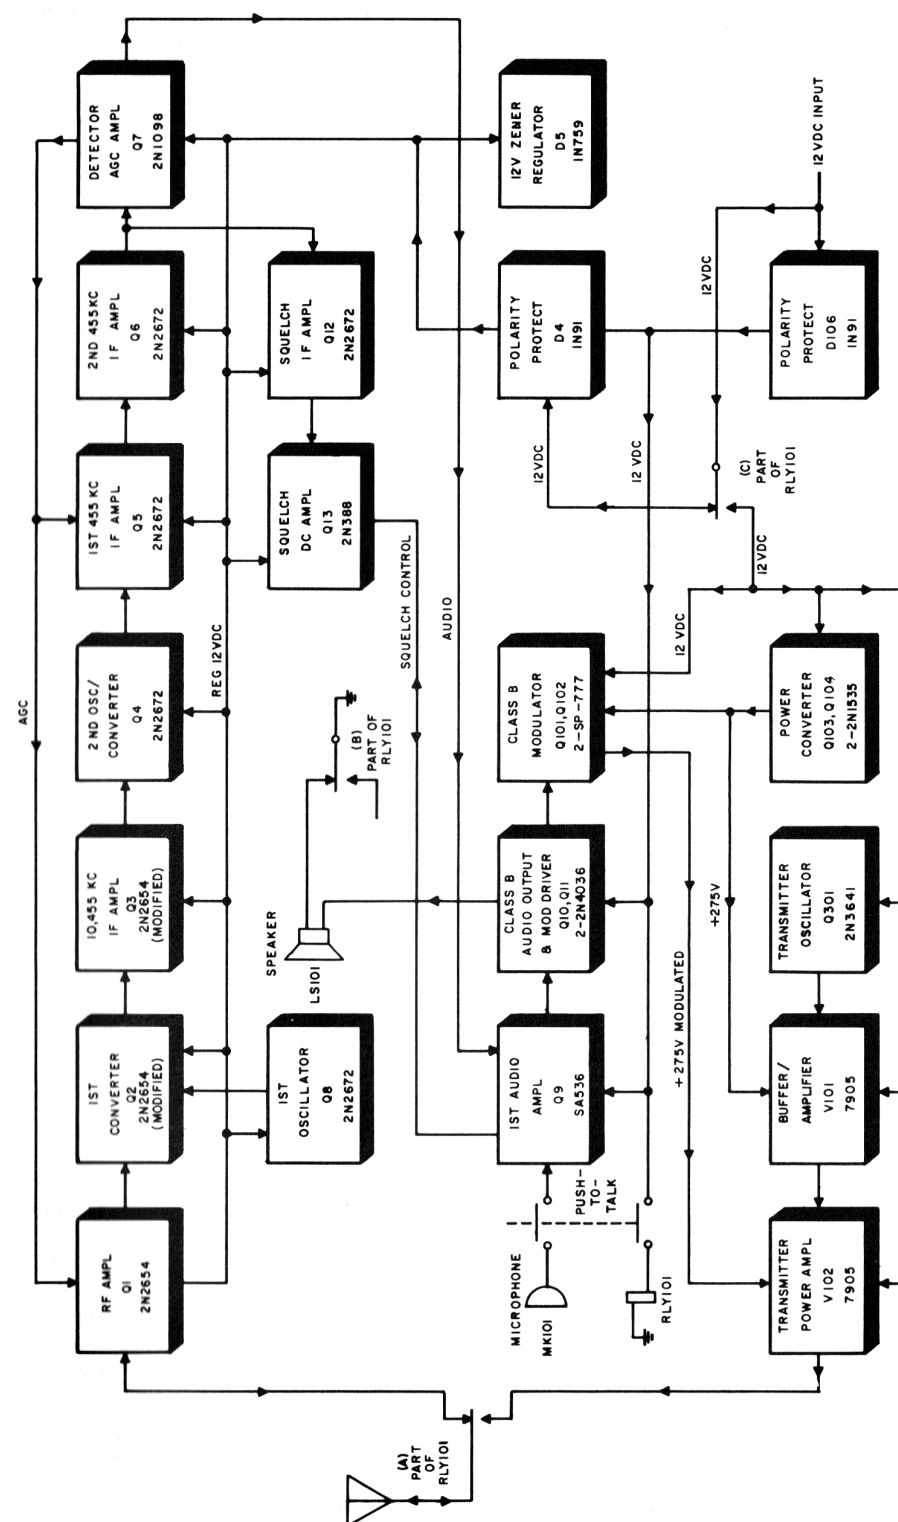

Figure 6. Hamlet Radio Transceiver, Block Diagram.
31. **BLOCK DIAGRAM.** The signal path through the transceiver and control circuits is shown in the over-all block diagram of figure 6. Paragraph 32 covers the signal path through receiver circuits; paragraph 33 covers the signal path through the common audio circuits; paragraph 34 covers the signal path through transmitter circuits; paragraph 35 covers the operation of the DC to DC power converter, and paragraph 36 covers the control circuits. For circuit